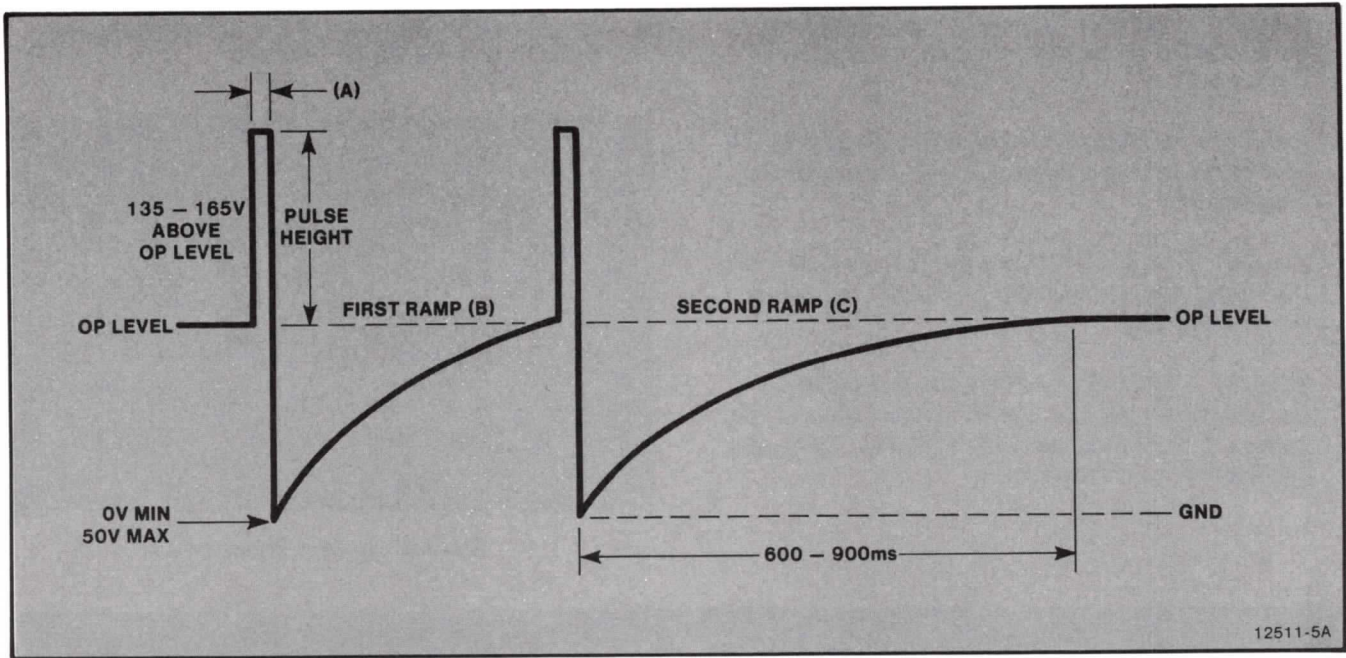
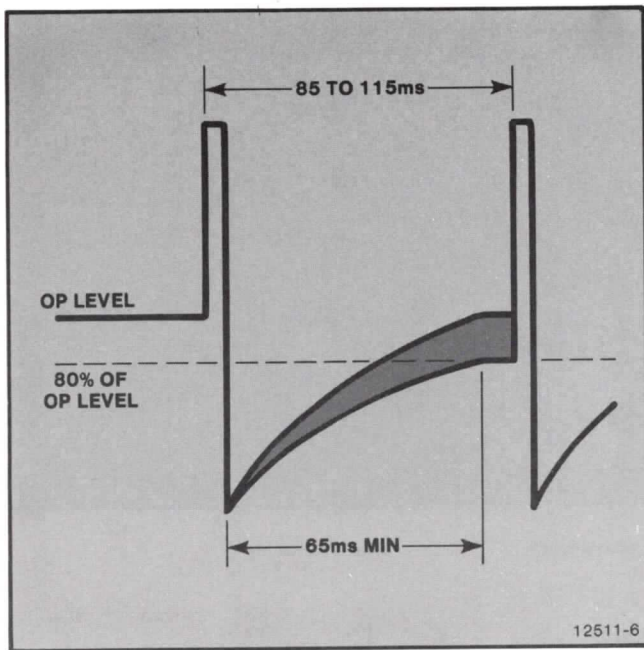

Figure 4-6. Target Erase Waveform.
Figure 4-7. Target Erase Waveform Enlarged.
- b. CHECK — for the Figure 4-6 waveform at TP 94, and verify that its parts conform to the waveforms in Figures 4-7 AND 4-8.